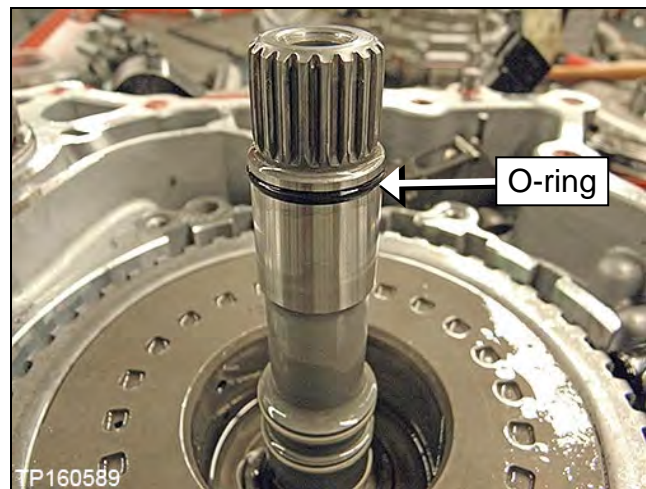

Figure 12I
11. Install a new O-ring on the input shaft (Figure 12I).